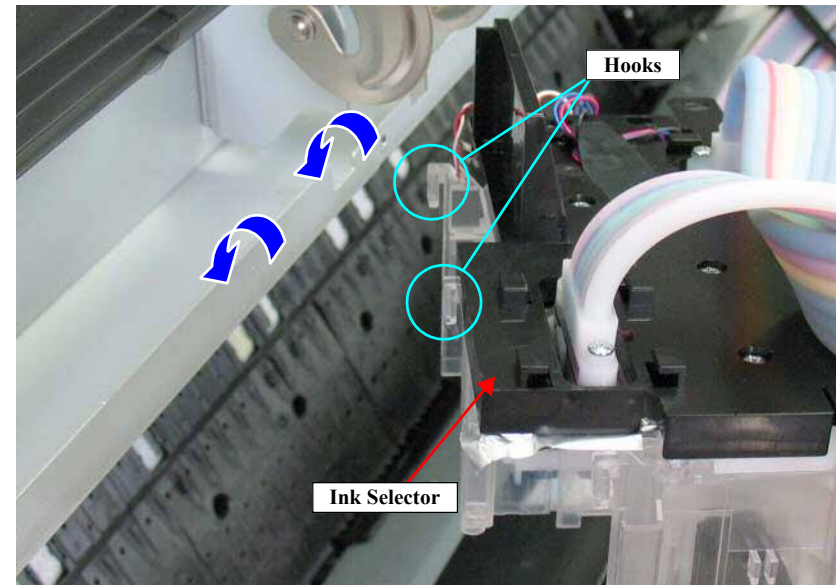

Figure 4-120. Securing the Ink Selector to the main body (1)
15. Attach the hook on the rear of the Ink Selector onto the Main Frame to secure the Ink Selector. *See Figure 4-120.*